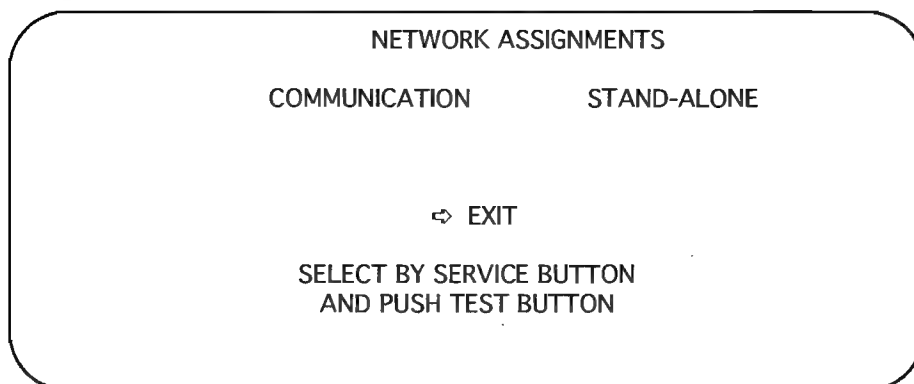

FIGURE 27: NETWORK ASSIGNMENTS SCREEN – STAND-ALONE MODE
1. Press the Test Button to enter the Test menu and choose NETWORK ASSIGNMENTS (see Figure 27).